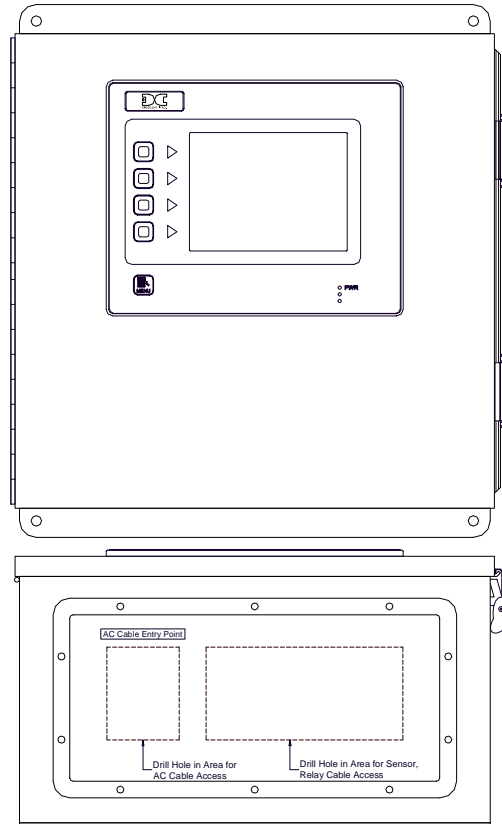

Figure 7 Cable Entry Points
NOTE The cable penetration for the AC power must be made in the bottom of the enclosure (See Figure 7). All penetrations must use conduit or a NEMA4 rated cable gland (Appleton p/n CG-2575 or equivalent) to prevent water ingress and restrict access to the internal circuits of the MCX-32.
NOTE The cable penetration for the DC power must be made in the bottom of the enclosure (See Figure 7). All penetrations must use conduit or a NEMA4 rated cable gland (Appleton p/n CG-2575 or equivalent) to prevent water ingress and restrict access to the internal circuits of the MCX-32.
- NOTE** All cable penetrations for analog sensor cables must be made in the bottom of the enclosure (See Figure 7). All penetrations must use conduit or a NEMA4 rated cable gland (Appleton p/n CG-2575 or equivalent) to prevent water ingress and restrict access to the internal circuits of the MCX-32.
NOTE The cable penetrations for the dry contact inputs must be made in the bottom of the enclosure (See Figure 7). All penetrations must use a NEMA4 rated cable gland (Appleton p/n CG-2575 or equivalent) to prevent water ingress and restrict access to the internal circuits of the MCX-32.
NOTE The cable penetration for the analog outputs must be made in the bottom of the enclosure (See Figure 7). All penetrations must use conduit or a NEMA4 rated cable gland (Appleton p/n CG-2575 or equivalent) to prevent water ingress and restrict access to the internal circuits of the MCX-32.